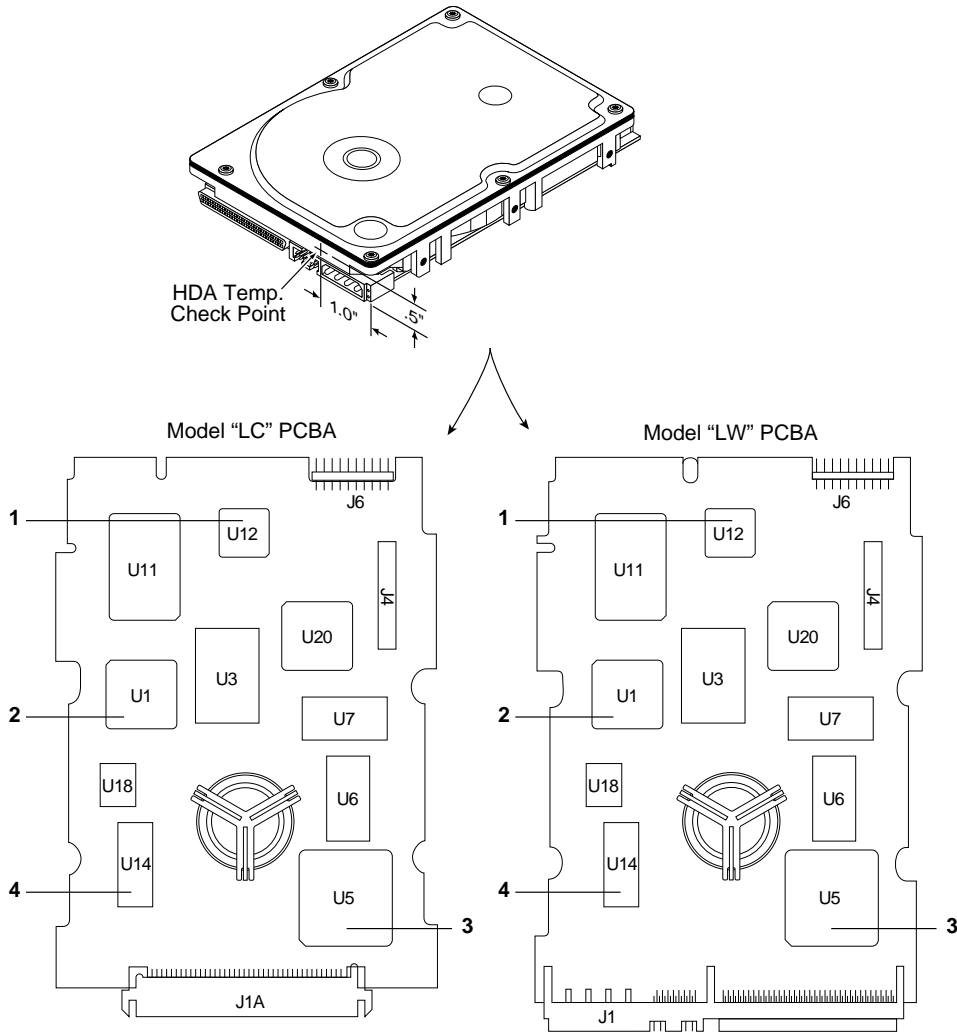

Figure 15. Locations of PCBA components listed in Tables 3 and 4
- [2] Measure HDA temp at point labeled "HDA" on Figure 15.